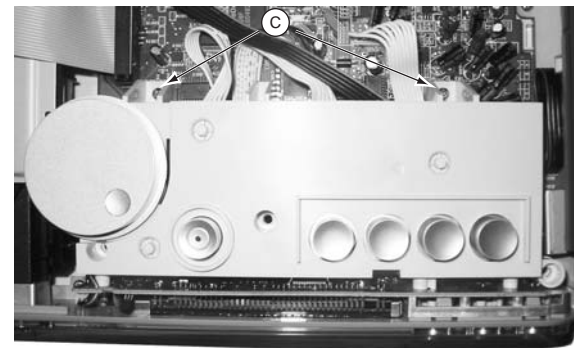

Figure 6
- 1) Loosen 2 screws "C" at the top of the button as shown in figure 6.